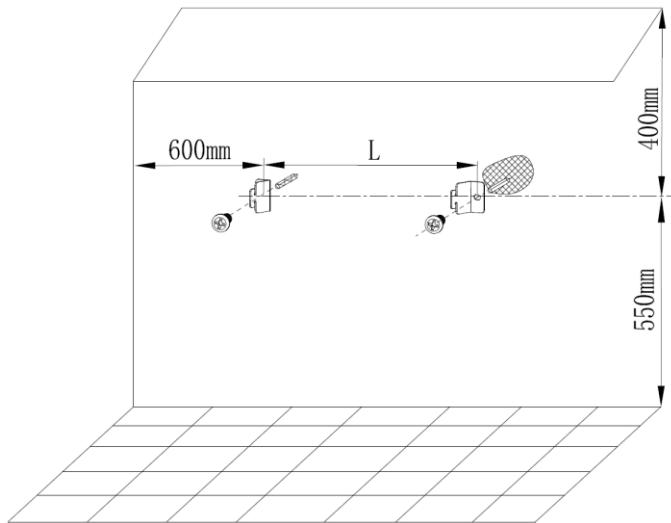

Fig. 4
4. According to the distances shown in Fig. 4, mark the location of the brackets on the wall. Drill holes (drill diameter 6 mm), insert dowels (not supplied), fix the brackets to the wall with screws.